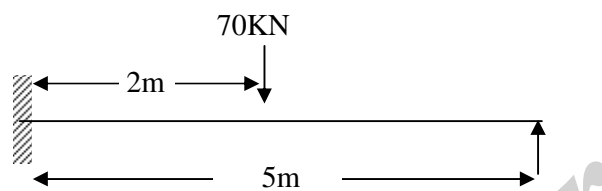

Figure 1
1. Find the support moment for the propped cantilever loaded as shown in Figure 1 if the support rotates clockwise by 0.002 radians. $EI = 1.2 \times 10^6 \text{ kgm}^2$